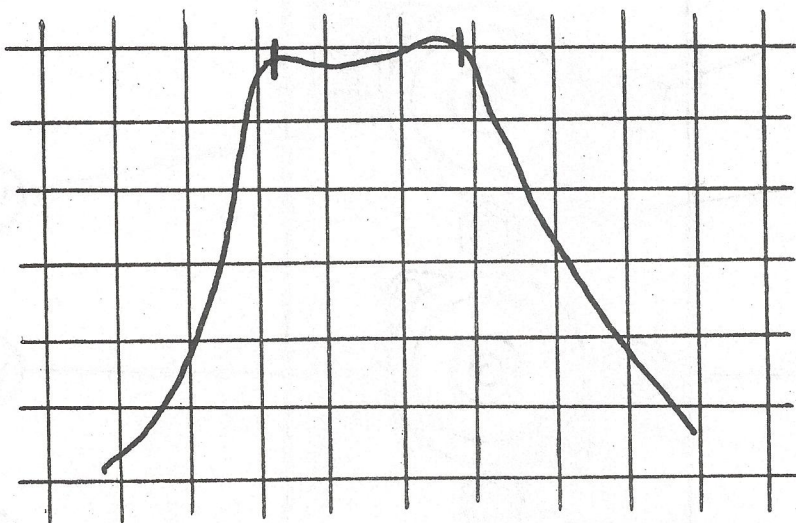

Figure 14.
6. Trim all adjustments for proper curve shape, as shown in Figure 14. Loss in Filter will be the difference between pad settings of this step and Step 3.
1. Curve of Figure 14 shall not have more than 1 DB difference from maximum to minimum points within the pass band between picture and sound carriers.